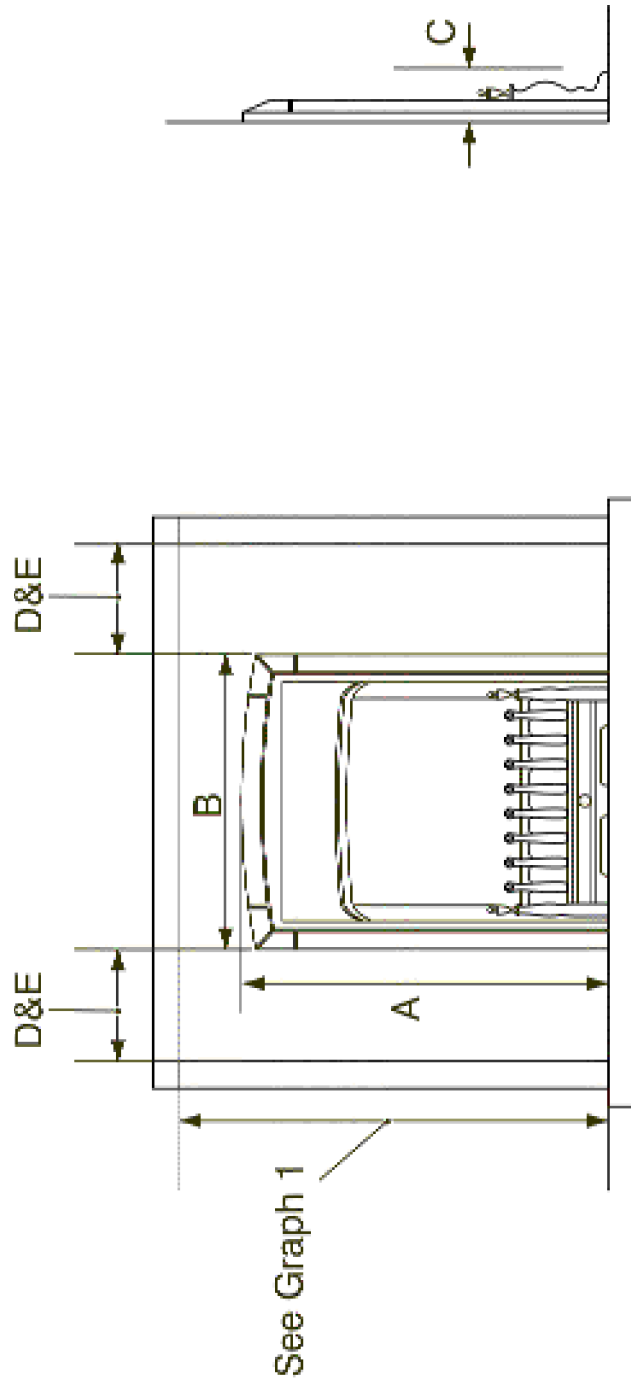

Figure 5. Appliance dimensions and clearances (Fascia may differ from that shown)
**4.20** The minimum allowable distance from the outside of the appliance fascia to a corner wall having combustible material or any other combustible surface which projects beyond the front of the appliance is shown in figure 5.
Figure 5 continued. Appliance dimensions and clearances